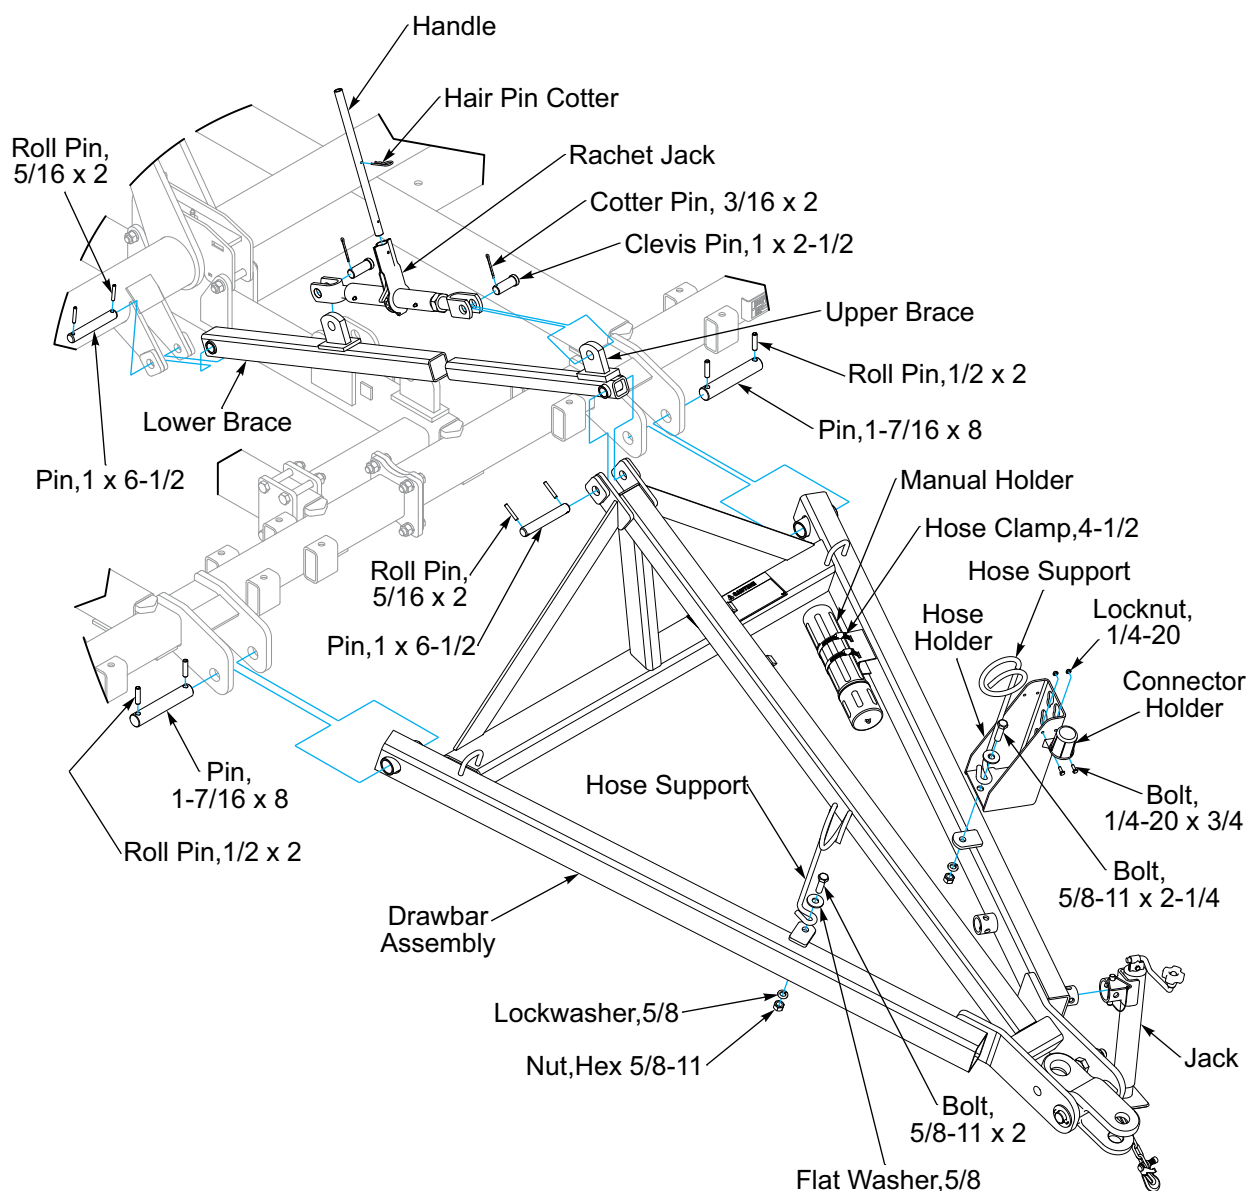

Figure 2-33: Drawbar Installation, 11 and 13 Shank Machines
1. Attach the Drawbar Assembly to the Frame Front Lugs with 1-7/16 x 8 Pin and secure with 1/2 x 2 Roll Pins. **See Figure 2-33.**
2. With the lugs up, slide the Upper and Lower Brace Tubes together. Install the Lower Brace Tube between the Rockshaft Lugs and Upper Brace Tube between the Drawbar Mast Plates with 1 x 6-1/2 Pins and secure with 5/16 x 2 Roll Pins. **See Figure 2-33.**